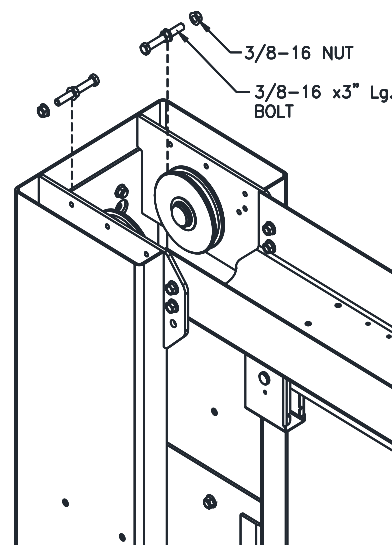

Fig. 9 – Column Ext. Cable Trapping
- 21) Route free end of cables up and over the upper sheaves and back down the opposite side. At the upper sheave locations, disassemble and reassemble the cable trapping hardware after cables are routed around sheaves, Fig. 9.